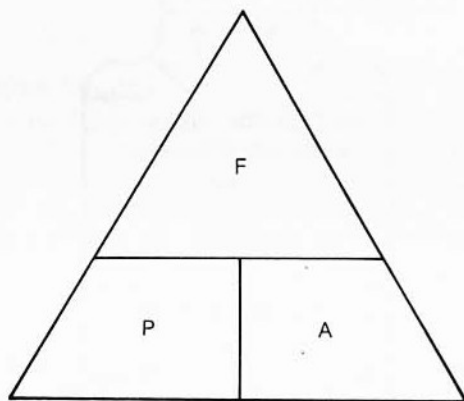

Figure 1 The force triangle
The relationship between force (F), pressure (P) and area (A) is expressed mathematically by the use of the force triangle (Fig. 1).